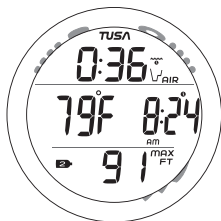

Fig. 100 - GAUG DIVE ALT
**Gauge Dive ALT** information includes (Fig. 100) -